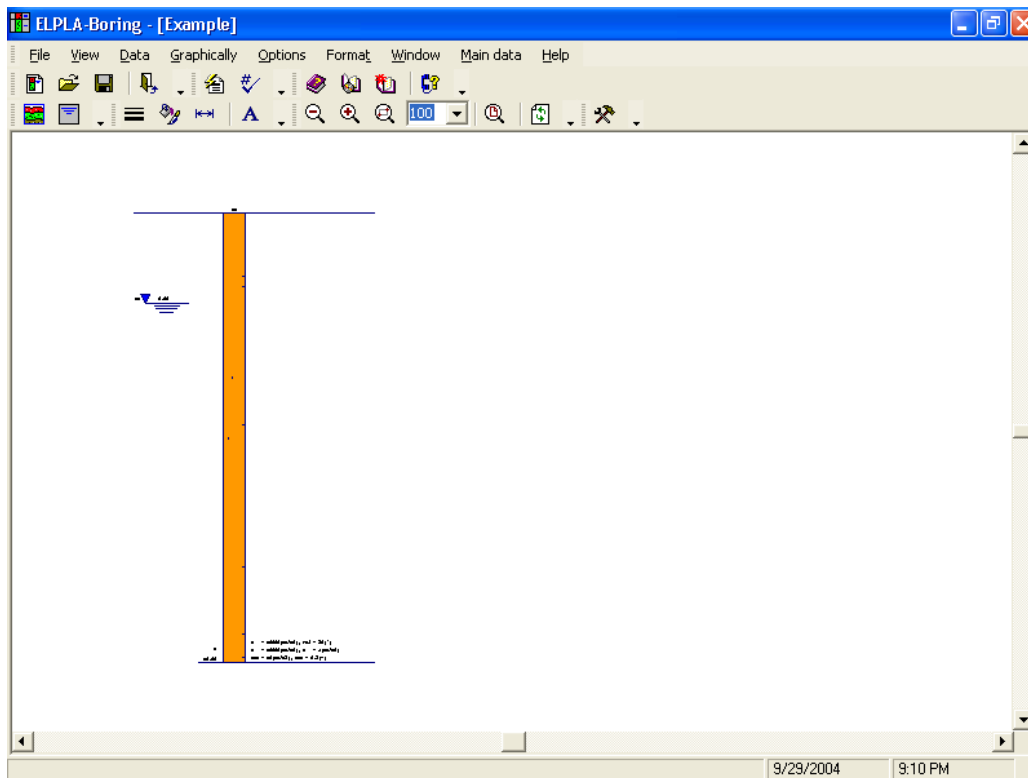

Figure 1-16 *ELPLA-Boring* with a default-boring log
To define the soil properties, choose "Soil properties" command from "Data" menu. The following sub program in Figure 1-16 appears with a default-boring log.
In Figure 1-16, soil properties are defined through the "Data" menu which contains the following two commands:
- Choose "Soil data" command from "Data" menu in the window of Figure 1-16. The following dialog box in Figure 1-17 with default-boring log data appears